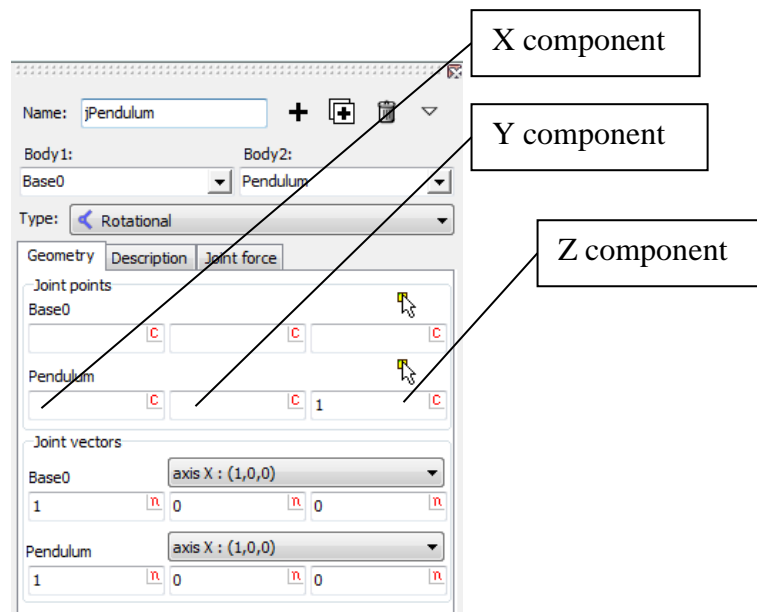

Figure 1.12. Rotational joint parameters
3. In the group **Joint points | Pendulum** set **Z** position to **1**. So the pendulum will swing around its upper point, see in Figure 1.12.